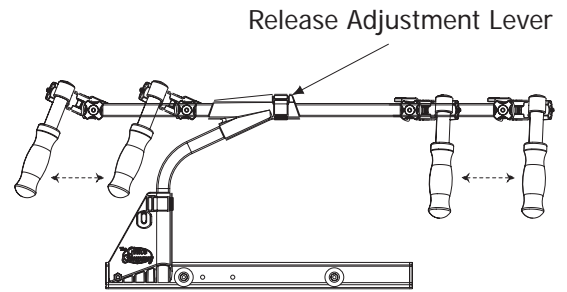

Fig. 21-3
- And finally the Handles can be adjusted forward and back (Fig. 21-3)